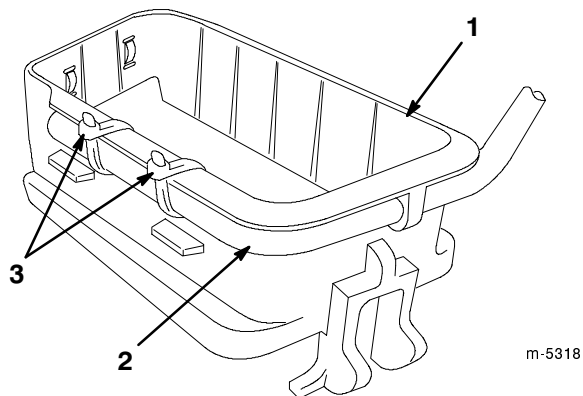

Figure 1
1. Attach the bag support wire to the rear bag inlet chute as shown in Fig. 1.
2. Secure the bag support wire to the rear bag inlet chute with two small cable ties. Position the cable tie heads on the backside of the rear bag inlet chute as shown in Figure 1, and cut off the excess straps.